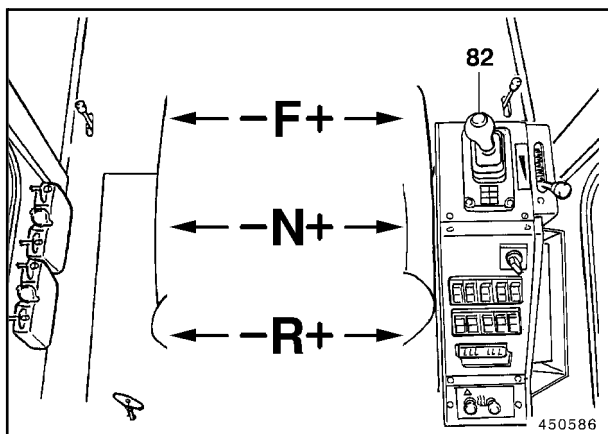

Fig. 14
- Set gearshift lever (82, Fig. 14) to forwards or reverse travel.